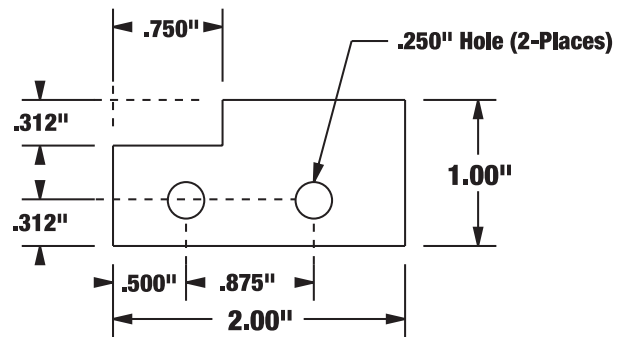

Figure 3 - Cruise Control Bracket
- **BRACKETS:** On vehicles with cruise control using a Performer RPM series intake manifold (#7176, 7576 or 75763), a bracket must be fabricated to move the cruise control clamp (**See Figure 3 for reference**). This ensures proper clamping of the cruise control cable. Also, due to the high-rise design of Performer RPM intake manifolds, there may be slight interference between the throttle linkage bracket, and the intake runner wall. Minor grinding to the throttle bracket may be required to provide clearance.